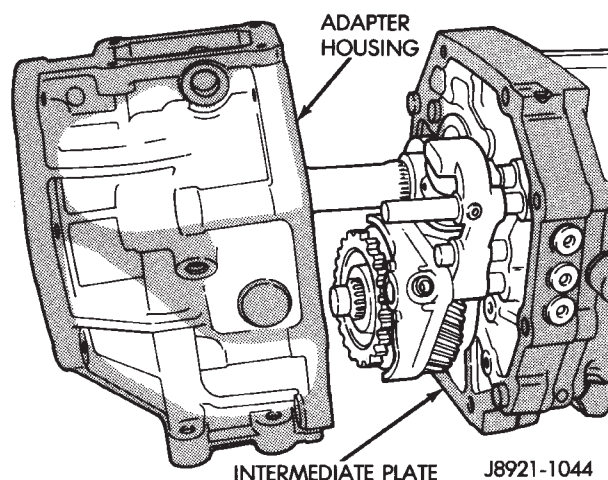

Fig. 38 Install Adapter/Extension Housing—Typical
(8) Apply a 1/8 to 3/16 inch wide bead of Threebond® Liquid Gasket TB1281, P/N 83504038, to sealing surface of adapter/extension housing, making sure to keep sealer bead to inside of bolt holes.
(9) Install adapter or extension housing on intermediate plate (Fig. 38). Tighten housing bolts to 34 N·m (25 ft. lbs.) torque.